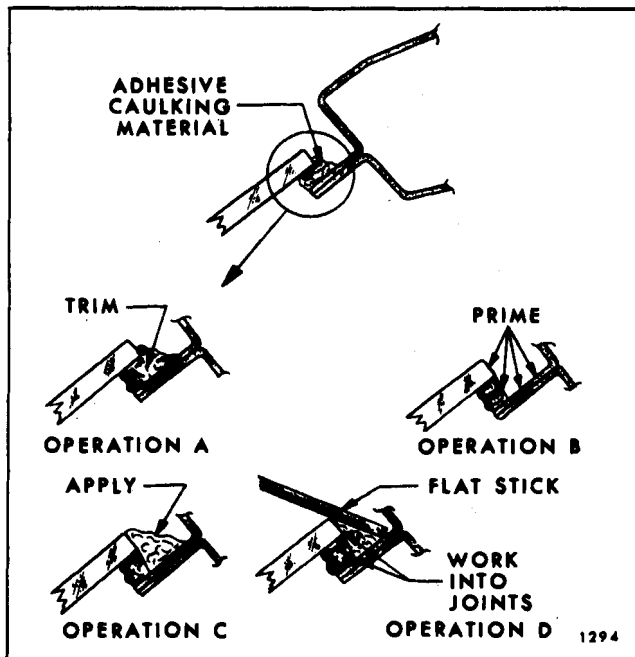

Fig. 4-9-Adhesive Caulked Glass Waterleak Correction
4. Using a sharp knife, trim off uneven edge of adhesive caulking material (see Operation "A" Fig. 4-9) at leak point and 3 to 4 inches on both sides of leak point or beyond limits of leak area.
5. Using small brush, apply adhesive caulking material primer over trimmed edge of adhesive caulking material and over adjacent painted surface (See Operation "B" Fig. 4-9).
6. Apply adhesive caulking material, as shown in Operation "C" (Fig. 4-9), at leak point and 3 to 4 inches on both sides of leak point or beyond limits of leak area.
7. Immediately after performing Step 6, use flat stick or other suitable flat-bladed tool to work adhesive caulking material well into leak point and into joint of original material and body to effect watertight seal along entire length of material application (See Operation "D" Fig. 4-9).